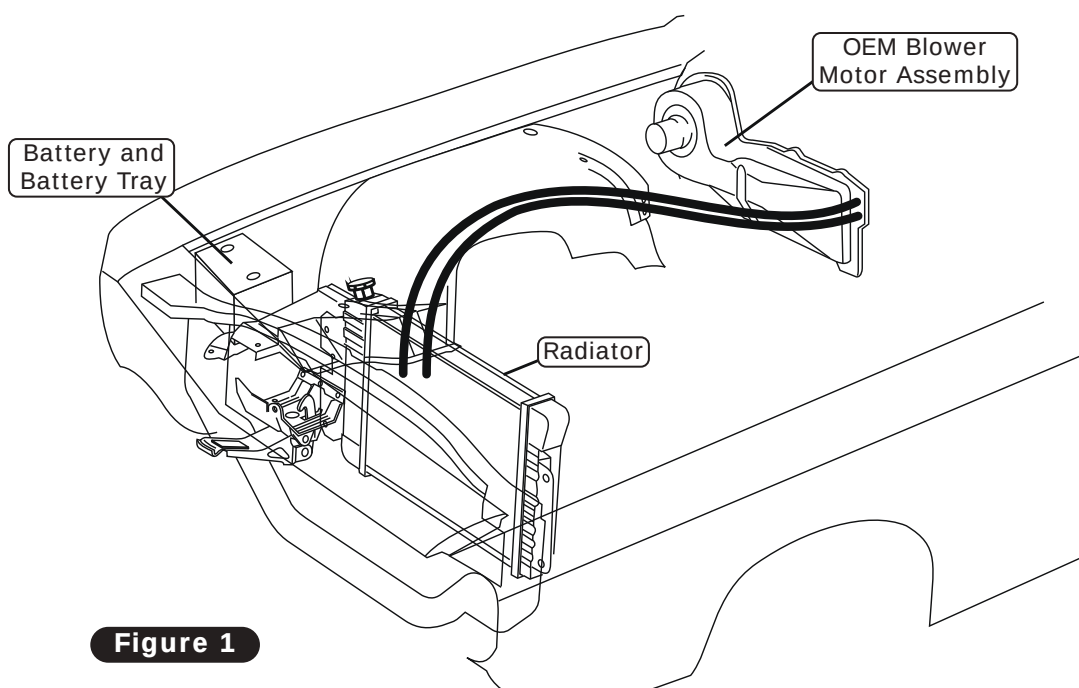

Figure 1
1. Remove the battery and battery tray (retain) (See Figure 1, below).
3. Remove the heater blower motor assembly (discard) (See Figure 1, below).
4. Remove the OEM heater hoses (discard) (See Figure 1, below).